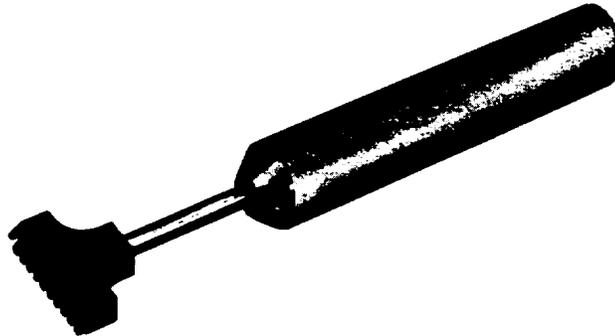

Figure 9. 834B Multipair Impact Tool
2.15 The 834B multipair impact tool (DA, Figure 9) seats and cuts up to ten 22-through 26-gauge (0.6 - 0.3 mm) IPVC wires on the index strip of the 93-type connecting block. It is also used to seat the 109-type connector on the index strip.